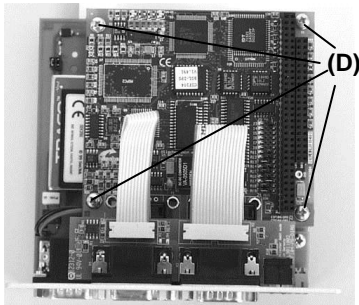

Fig. 2.5.7
- Please, put the profibus card back in the starting position and tighten the 4 screws (Fig. 2.5.7).